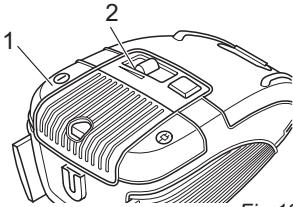

Fig.12
3. Switch on the cylinder vacuum cleaner using the on/off switch (Fig. 12/1).
4. Turn on the suction using the suction controller (Fig. 12/2).